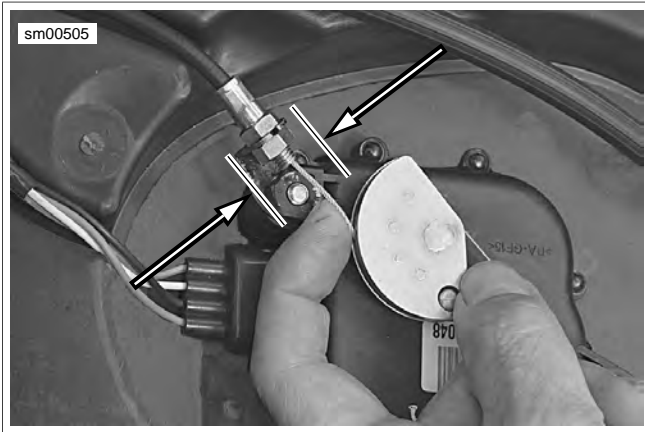

Figure 1-46. Checking For 1/8 in. (3.2 mm) Maximum Free Play In Either Direction For Proper Adjustment
9. See Figure 1-46. Adjust interactive exhaust cable as follows: